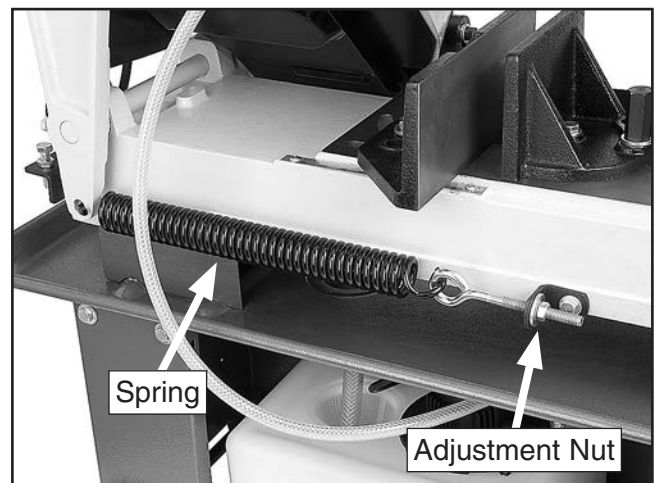

Figure 40. Location of adjustment nut.
2. Using a $\frac{9}{16}$ " wrench, adjust feed pressure tension spring by rotating adjustment nut (see **Figure 40**). Tighten enough to remove play but not enough to apply tension to spring.